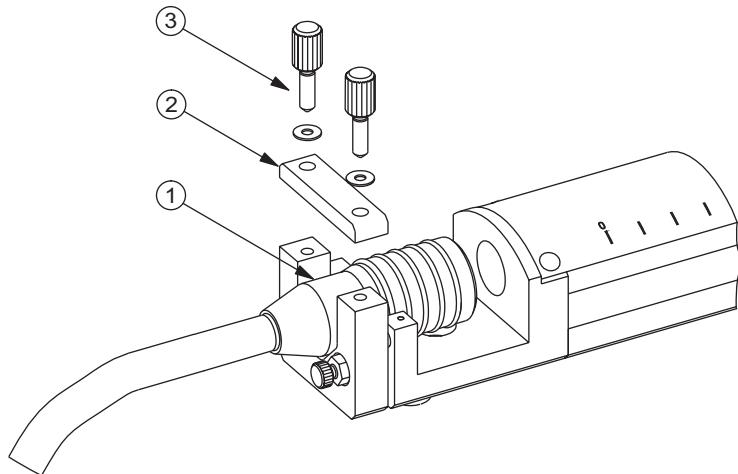

Figure A.2: Mounting the fiber head OFV-102 to the reference head OFV-153
Close the beam shutter and mount the fiber head OFV-102 to the reference head OFV-153 as shown in figure A.2.
6. Secure the fiber head OFV-102 with the clamping device **2** and the two knurled screws **3** in figure A.2.